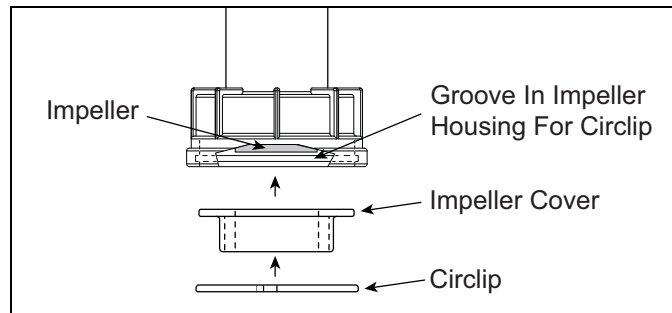
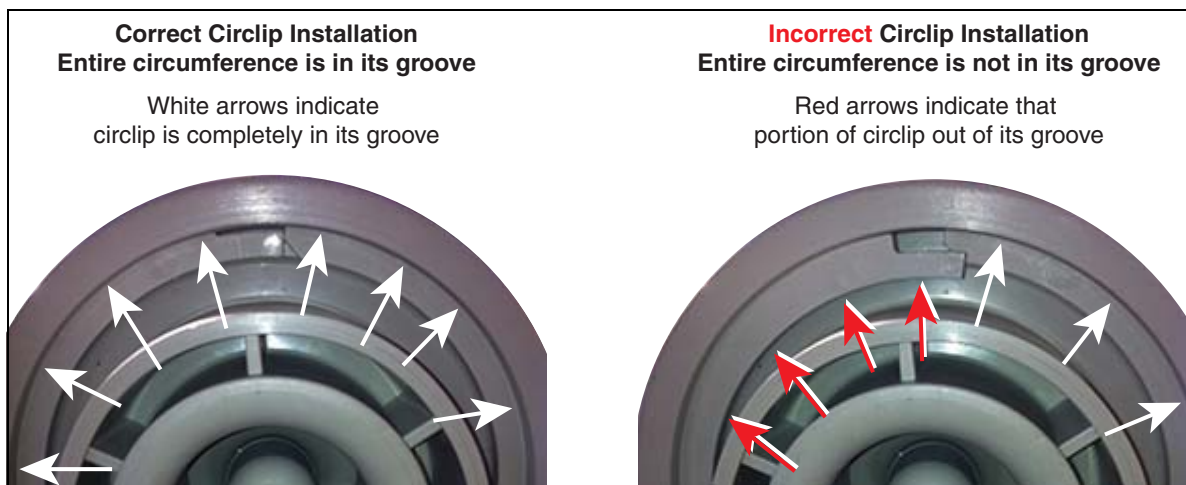

Figure 4. Installing Impeller Cover And Retaining Circlip
Figure 5. Circlip Installation Precautions
2. Remove the polypropylene impeller cover, and circlip from the accessory parts box that was shipped in the RJ DEF Pump shipping container. Install the impeller cover into the impeller chamber, pushing it towards the impeller. To secure the impeller cover, insert the circlip ring into the visible groove in the impeller chamber as shown in Figure 4. The entire circumference of circlip must be seated within its groove to prevent the impeller cover from falling out during pump operation (Figure 5).